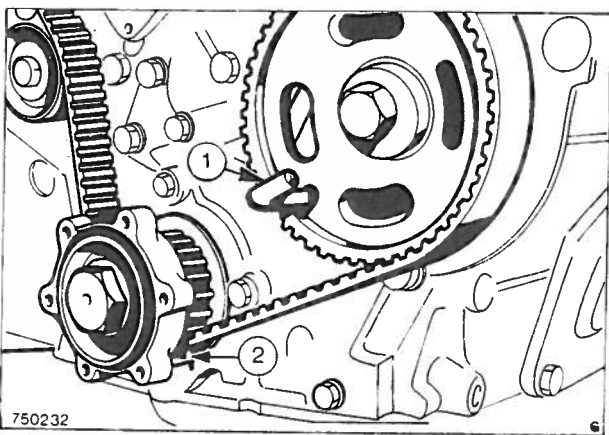

Fig. 7 The camshaft timing per Tool No. 21-016
2. Align the crankshaft timing marks with No. 1 piston at T D C on the compression stroke and insert the camshaft gear timing pin, Fig. 7. Slacken the timing belt tensioner and remove the belt from the injection pump drive gear.